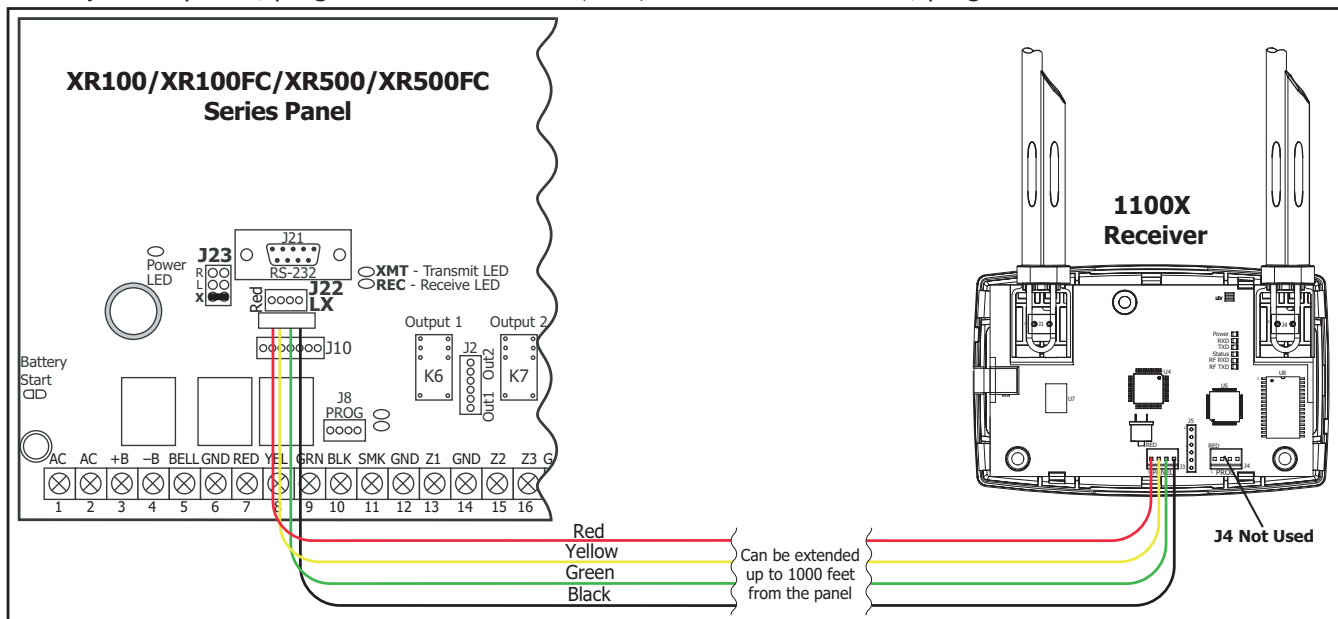

Figure 3: XR100/XR100FC or XR500/XR500FC DMP Wireless Bus Connection
Refer to Figure 3 on the next page, the XR500 Series Installation Guide (LT-0681), the XR500FC Series Installation Guide (LT-1088), the XR500 Series Programming Guide (LT-0679), the XR100 Series Installation Guide (LT-0899), the XR100FC Series Installation Guide (LT-1087), the XR100 Series Programming Guide (LT-0896), and use the following steps to connect the panel and receiver:
- Verify that the XR100/XR100FC/XR500/XR500FC panel XMIT and REC LEDs alternately flash on and off at a rate of 1/4 second each. If the LEDs are On steady or Off, the panel and receiver are not communicating properly. (See Figure 3).